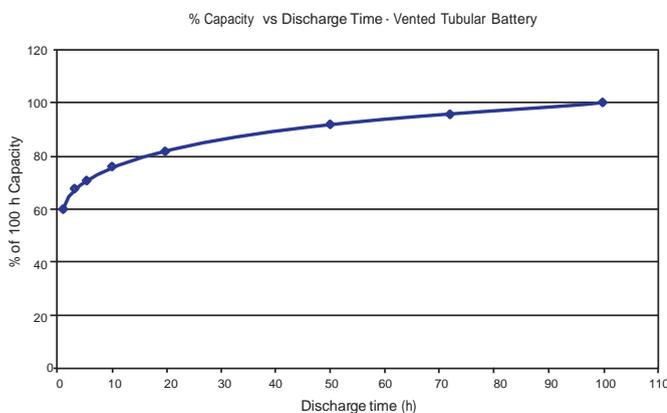

Figure 2. % Capacity (Ah) vs. discharge current of a typical solar battery
a. The ampere hour capacity in a battery depends on its discharge rate. The higher the current, the less the capacity and vice versa. The reason for this is that the chemical reaction during discharge limits the rate at which power can be drawn from the battery. This is illustrated by the graph in figure 2 which gives capacity realised from a vented Tubular battery versus discharge current. This shows that the 100 hour discharge current gives 100% of capacity but the 1 hour discharge current only 60% of capacity.